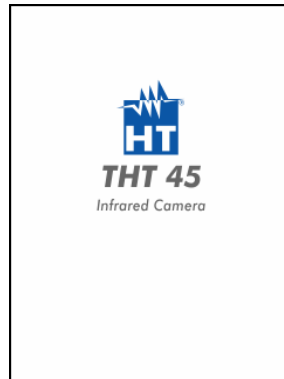

Fig. 29: Initial screen
1. Switch on the instrument by pressing the “” key. After approx. 20 seconds of internal autotest, the instrument shows its normal measuring screen. Upon start-up, the instrument shows a screen like the one shown in Fig. 29.